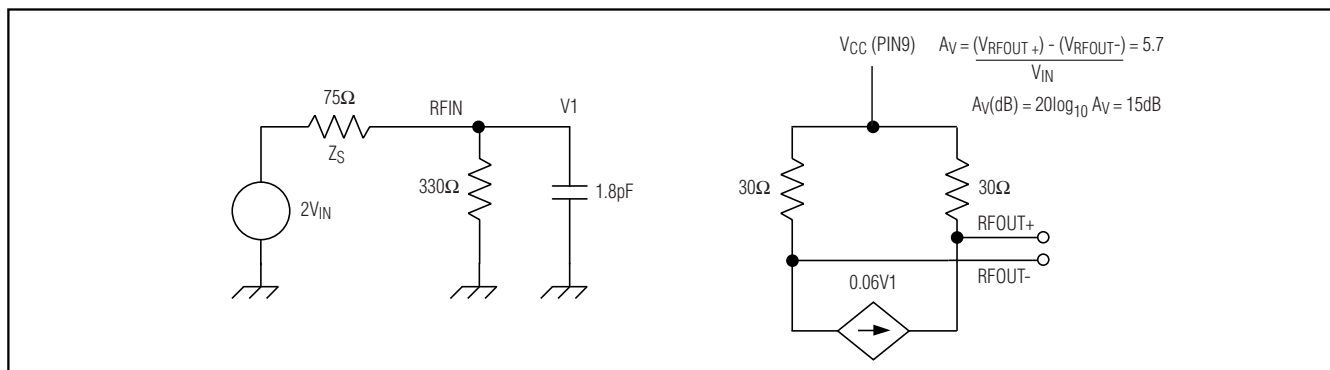

Figure 2. LNA Equivalent Circuit and Open-Circuit Voltage Gain Calculation
**Note 5:** Corresponding voltage gain at RL = 3kΩ, calculated as in Figure 2.
The low-noise amplifier operates from 44MHz to 880MHz and is designed specifically for cable TV and cable modem applications. The LNA provides 15dB of insertion voltage gain (see Figure 2) when driving a
The LNA input is single-ended. The RF input signal is coupled to RFIN through a DC blocking capacitor. The LNA outputs drive a differential load, such as a mixer, through DC blocking capacitors. The equivalent input LNA impedance is 330 $\Omega$  resistive in parallel with 1.8pf, as shown in Figure 2. The approximate equivalent differential output impedance of the LNA is 60 $\Omega$ . To achieve S11 less than -6dB, an insertion loss of greater than 1dB must exist between the cable input and MAX3524. This loss typically comes from a diplexer and PIN attenuator in a cable modem application. A shunt resistor may be added at the input of the LNA to improve the return loss (S11). Typically the return loss of the system is 2dB better, as explained above. The S11 and noise-figure values for different shunt resistors are given in Table 1.